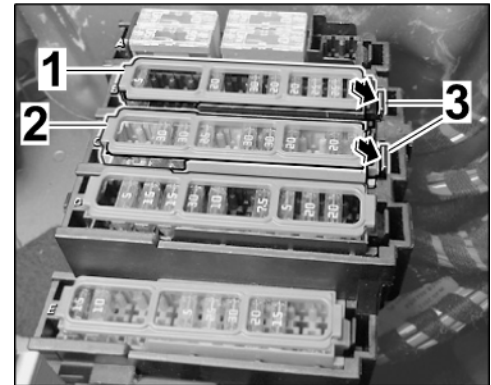

Figure 8
2.4.2 Release locks of fuse strip C and fuse strip B. Remove fuse strips B/C by pulling them down (⇒ *Figure 8* -Arrows-) out of the fuse box.